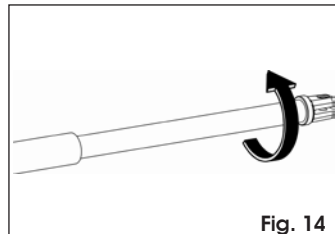

Fig. 14
6. Turn the operator's rod clockwise by a half/full turn, Fig.14, to retract the rod.